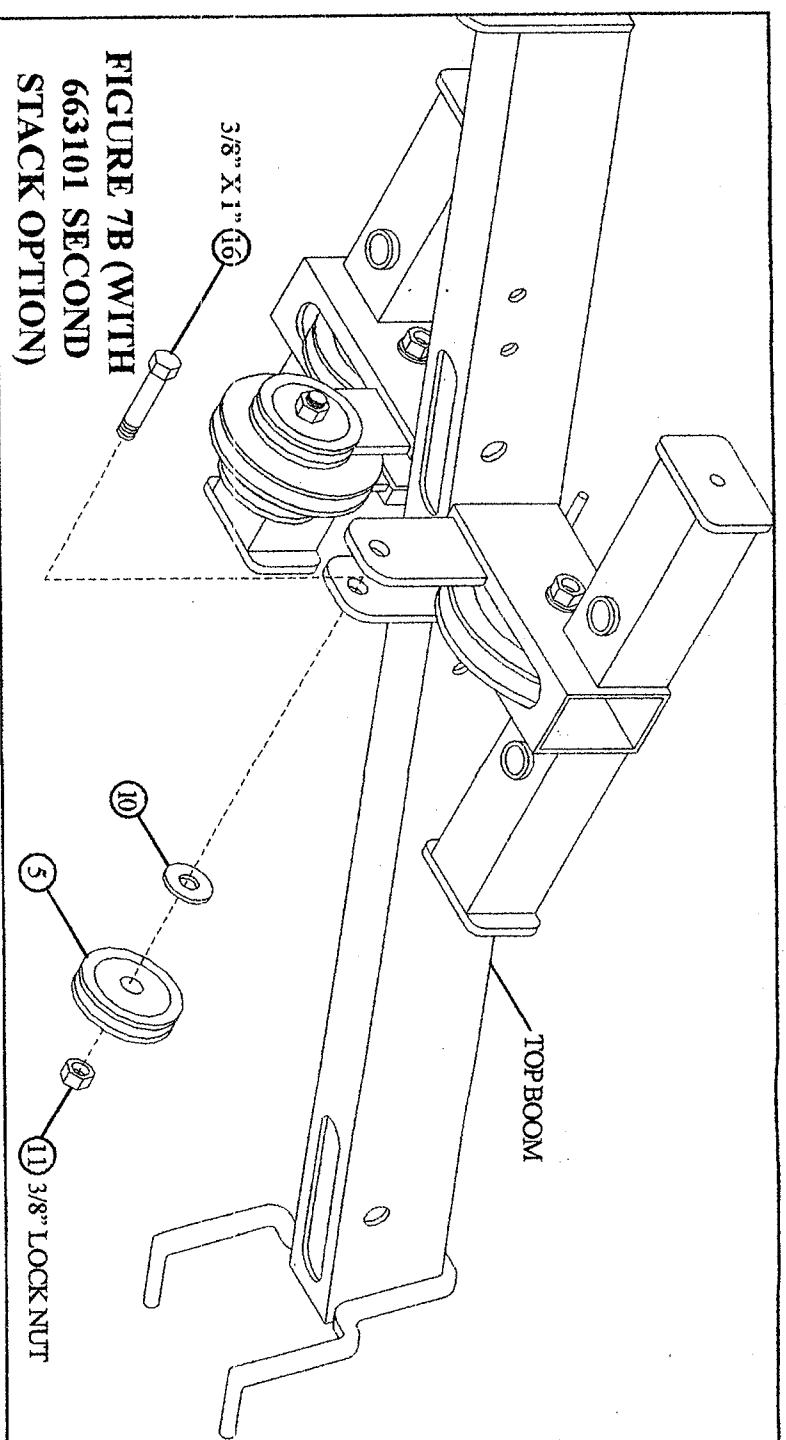

FIGURE 7B (WITH
- **SECURELY** assemble one 3/8 X 1" BOLT (16), one 3/8" WASHER (10), one 2" PULLEY (5) and one 3/8" LOCK NUT (11) to the bracket on the TOP BOOM as shown in FIGURE 7B.